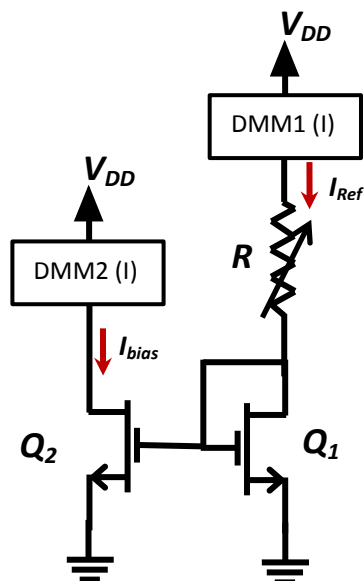

Figure 2 Current mirror source.
In analog VLSI design, amplifiers are biased using current mirror sources due to their efficient structure in terms of area and power consumption. In this experiment, you will build a current mirror source to supply constant DC current using matched NMOS transistors within the CD4007 IC chip. The circuit diagram for the current mirror source is shown in Figure 2. It contains two transistors Q1 and Q2 that are ideally identical as they have the same processing parameters (V_t , K_n , γ , ...) Typically, VLSI designers adjust the W/L ratio for each transistor to provide desired bias current. In the circuit shown, Q1 acts as a reference transistor that provides I_{Ref} through R which biases the gate voltage to some determined value V_G . The gate voltage is reflected to Q2 which acts as the biasing current source that biases the circuit. The current of Q2 (the bias current) is adjusted by designing the proper W/L ratio of Q2. The current in Q2 is determined by the following equations
1. Using CMOS Dual Complementary CD4007 IC chip, Figure A-1 in Appendix A, construct the current mirror circuit of Figure 2 with a reference current $I_{Ref} = 1 \text{ mA}$, $V_{DD} = 5 \text{ V}$ and $I_{Bias} \approx 1 \text{ mA}$. The CD4007 has three NMOS transistors, use one of them for Q1. To build Q2 connect the other two NMOS transistors in parallel to make $I_{Bias} \approx 2 I_{Ref}$.